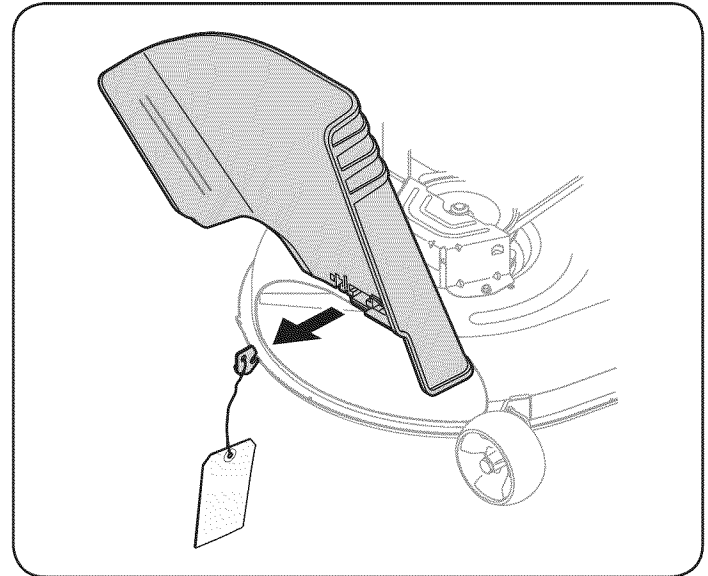

Figure 2
- Locate the shipping brace, if present, and accompanying warning tag found on the right side of the mower, between the discharge chute deflector and the cutting deck. See Figure 2.